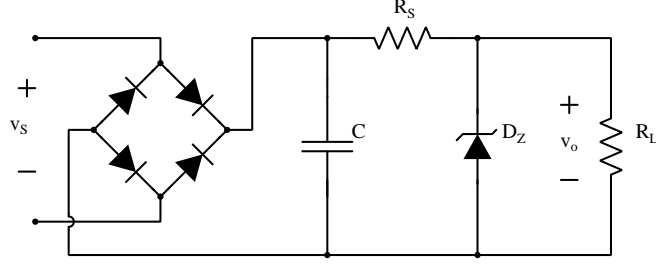

Figure 2.1: Zener regulator on a full-wave rectifier and envelope detector.
The list of the variables necessary in the analysis of Figure 2.1 is given in Table 2.1.
(Spice Simulation) A Zener regulator working on a full-wave rectifier with a sinusoidal input is given in Figure 2.1. Use 1N4001 diodes in the rectifier and 1N751 (with $V_Z = 5\text{ V}$) for the Zener diode. Choose $C = 22\text{ }\mu\text{F}$. The input sine is $v_s(t) = A \sin(2\pi f t)$ with $A = 10\text{ V}$ and $f = 1\text{ kHz}$.
Construct the circuit in Figure 2.1. Set $R_L = 8.2\text{ k}\Omega$. Now simulate the circuit for the following R_S values: $10\text{ }\Omega$, $47\text{ }\Omega$, $100\text{ }\Omega$, $470\text{ }\Omega$, $820\text{ }\Omega$. Observe what happens for too small values of R_S . What is the peak-to-peak ripple in the Zener reverse current? What is the range of the values for the Zener reverse current (does the Zener current exceed its max, see the datasheet for 1N751)? Does the ripple in the Zener voltage (accordingly the load voltage) become clearly observable?
Continue with the circuit in Figure 2.1. Now set $R_S = 820 \Omega$. Simulate the circuit for the following R_L values: 100Ω , 470Ω , $4.7 \text{ k}\Omega$, $8.2 \text{ k}\Omega$, $22 \text{ k}\Omega$, $100 \text{ k}\Omega$. For large values of R_L (even an open circuit), is there a chance that the Zener current will exceed its maximum value (examine the datasheet for 1N751 to obtain this max)? For too small values of R_L , what happens to the Zener current, what happens to the Zener voltage (load voltage) when the Zener current is too small? If you think there should be a limit to how small the load resistance can be, try to find this value by trial and error.
Most of the tasks in this section require the measurement of the voltage across a component, whose neither node is grounded (e.g., the load resistor R_L in Figure 2.1). For such tasks, you will make use of both probes of the oscilloscope. The probe ground is the ground of the circuit, accordingly the ground of the signal generator. Place a probe at each of the two nodes of the component (e.g., R_L). The mathematical signal subtraction function of the oscilloscope will give the desired voltage.
Construct the circuit in Figure 2.1, without the capacitor, the regulator, or the load. The load resistance should be $1 \text{ k}\Omega$. Use 1N4001 diodes to construct the bridge. The input sine should be $v_s(t) = A \sin(2\pi f t)$ with $A = 10 \text{ V}$ and $f = 1 \text{ kHz}$. The ground of the circuit should
Construct the circuit in Figure 2.1. The input sine should be $v_s(t) = A \sin(2\pi f t)$ with $A = 10\text{ V}$ and $f = 1\text{ kHz}$. Note that again $C = 22\text{ }\mu\text{F}$. Set $R_L = 8.2\text{ k}\Omega$. In this part of the experiment, you will place for R_S resistors of the following values in order and then measure several quantities: $820\text{ }\Omega$, $470\text{ }\Omega$, $100\text{ }\Omega$. The following tasks in this section will be done in order, and the results will be checked if they match with the findings of Section 2.3.3.
Observe on the scope the voltage v_C across the capacitor in Figure 2.1. Use the AC and DC coupling feature of the oscilloscope to compute the DC component V_C of this signal. Measure also the peak-to-peak ripple $v_{c,pp}$.
Observe on the scope the voltage across the load resistor $R_L = 8.2\text{ k}\Omega$ in Figure 2.1. Use the AC and DC coupling feature of the oscilloscope to compute the DC component V_L of this signal. Measure also the peak-to-peak ripple $v_{l,pp}$.
Construct the circuit in Figure 2.1. The input sine should be $v_s(t) = A \sin(2\pi f t)$ with $A = 10 \, \text{V}$ and $f = 1 \, \text{kHz}$. Note that again $C = 22 \, \mu\text{F}$. Set $R_S = 820 \, \Omega$. For R_L , the indicated resistors will be connected one by one and several quantities will be measured. Fill in the following table. Comment your measurements as the load resistance is made to be smaller.
3. Explain the function of the capacitor C in the Figure 2.1 by using the experiment data and simulation graphs.
4. Explain the function of the resistor R_S in the Figure 2.1 by using the experiment data and simulation graphs.